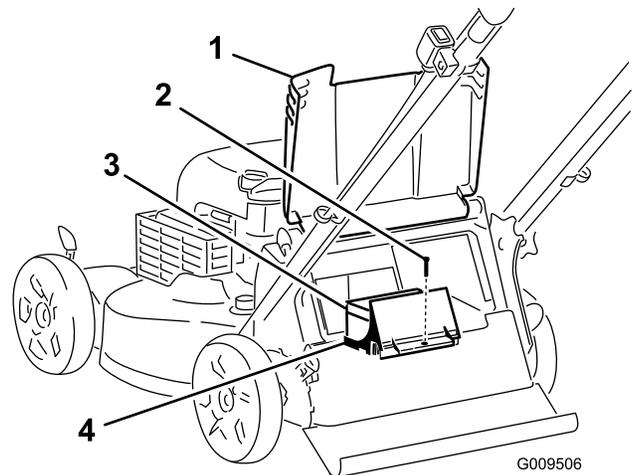
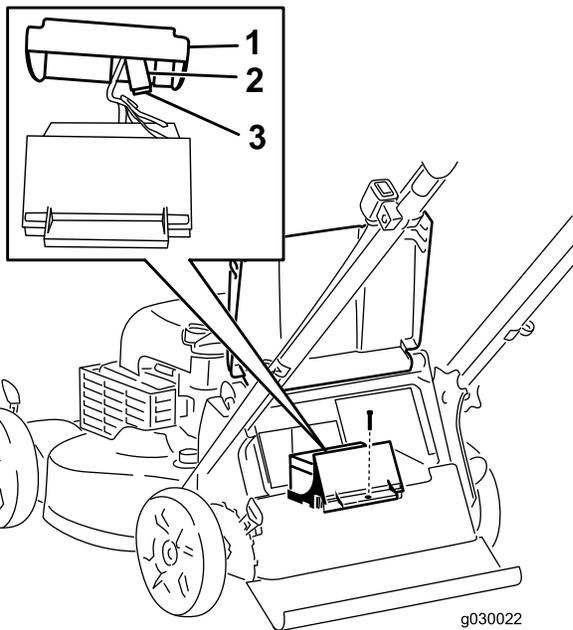

Figure 33
Figure 34
1. Raise the rear deflector and locate the battery compartment (Figure 33).
3. Remove the screw that secures the battery compartment, pull out the battery, and locate the fuse (Figure 33 and Figure 34).
4. Replace the fuse in the fuse holder (Figure 34).